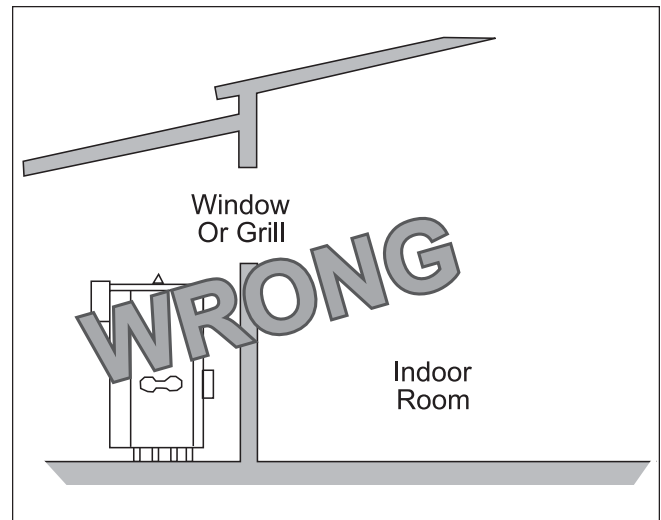

Figure 7. Incorrect Outdoor Installation.
- Do not place the heater in an enclosure or wall recess. Avoid locations where wind deflection off structures might cause down draft. When such wind conditions are possible, place the heater at least three (3) feet from the structures.
- Never install the heater under any kind of roof overhang. Do not place the heater below or adjacent to any doors, windows, louvers, grills, etc. which connect in any way with an inhabited area of a building. This includes other structures such as garages or utility rooms (see Figure 7).